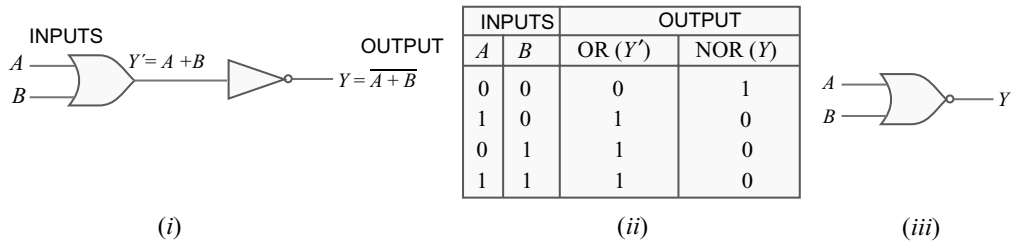
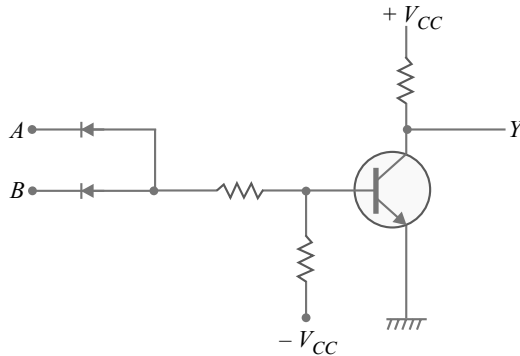

Fig. 24.20
Fig. 24.21
**(ii) NOR gate.** When the output of an OR gate is connected to the input of a NOT gate, the resulting gate is called **NOR gate** as shown in Fig. 24.20 (i). The Boolean expression for NOR function is
To perform the Boolean algebra operation, first the inputs must be ORed and then the inversion is performed. Fig. 24.20 (iii) shows the logic symbol for a NOR gate. The bubble (small circle) at the  $Y$  output indicates inversion.
**Truth table for NOR gate.** For NOR gate,  $Y = \overline{A + B}$ . Clearly, the output of a NOR gate is opposite to that of OR gate. This fact is shown in the truth table for NOR gate in Fig. 24.20 (ii). Note that the truth table for NOR gate is developed by inverting the outputs of an OR gate. *The output of a NOR gate is high when both the inputs are low, otherwise the output is low.* A NOR gate can be made by connecting a diode OR gate followed by a transistor inverter as shown in Fig. 24.21.